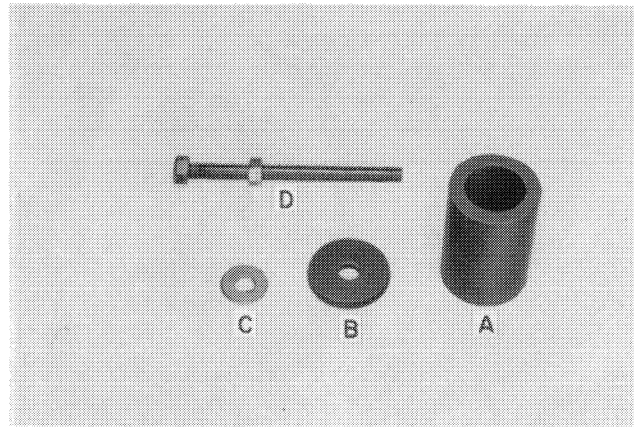
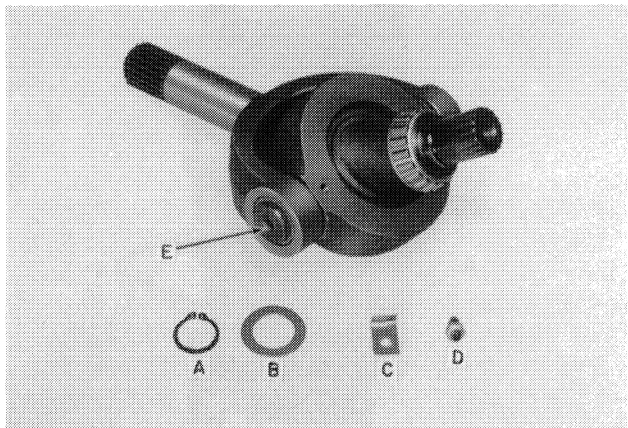

FIGURE 12
FIGURE 11
1. Remove the retaining ring, A, Figure 11, and washer, B.
3. Pull pin, E, Figure 11, from the yoke. A special tool can be made as shown in Figure 12.
3. Install setscrews, locknuts, and locking tabs, C, and D, Figure 11.
4. Install washers, B, and retaining rings, A, Figure 11.